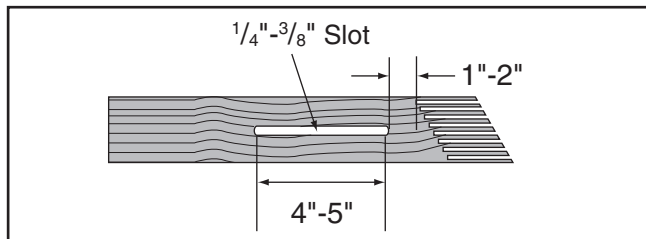

Figure 91. Slot routed in featherboard.
4. Rout a $\frac{1}{4}$ "- $\frac{3}{8}$ " wide slot 4"-5" long in the workpiece and 1"-2" from the short end of the featherboard (see **Figure 91**).